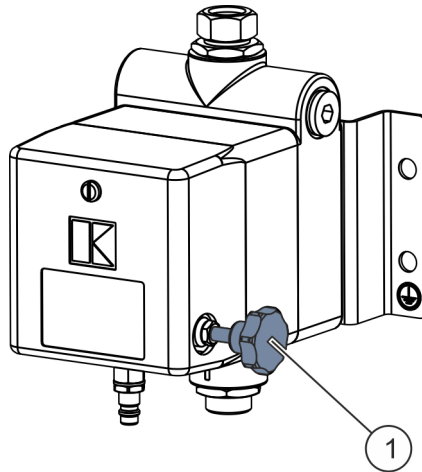

Fig. 6: Compressed air controller
5. ➤ To bleed the pressure controller (Fig. 6/1), first set a low air pressure.